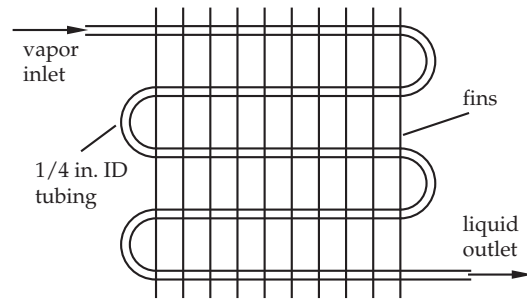

FIGURE P2.32.
32. Figure P2.32 shows a cross-flow heat exchanger used to condense Freon-12. Freon-12 vapor enters the unit at a flow rate of 0.065 kg/s. Freon-12 leaves the exchanger as a liquid (Sp. Gr. = 1.915) at room temperature and pressure. Determine the exit velocity of the liquid.